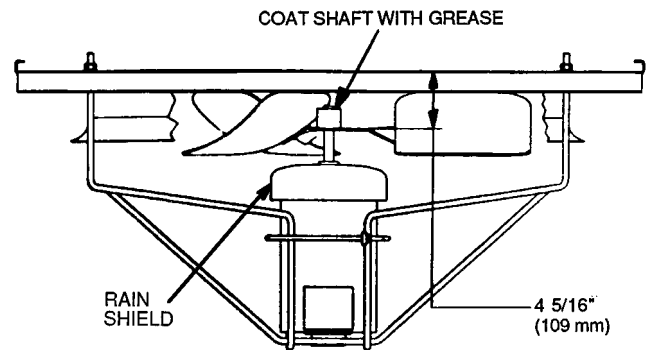

Fig. 6 — Fan Adjustment — 558E,558F,580E
- Install the rainshield (supplied with the accessory kit) over the fan motor. Reinstall the fan propeller, set clearance, and reinstall fan guard. See Fig. 6.